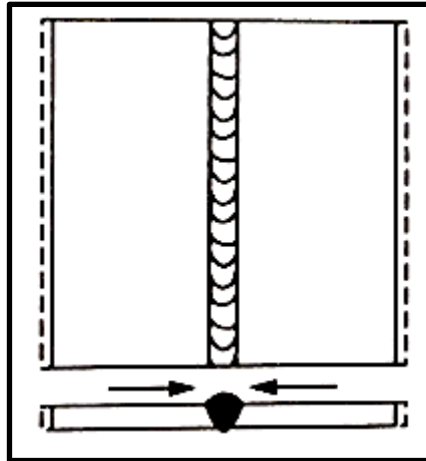

FIGURE 9.3.1
9.3 Study FIGURES 9.3.1 and 9.3.2 below and identify EACH distortion. (2)